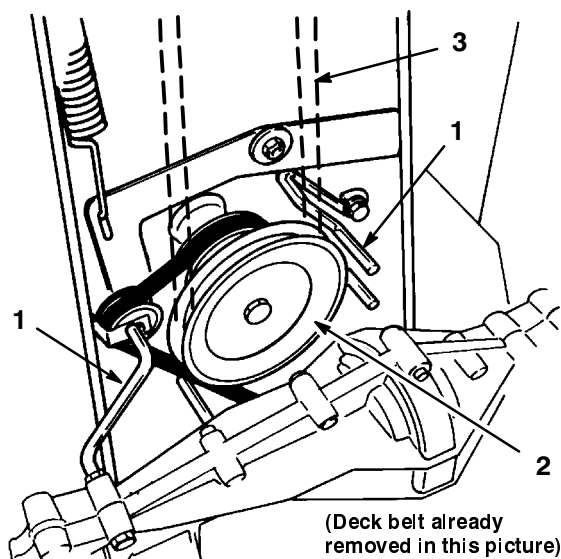

Figure 36
- Loosen the belt guides near the engine pulley and rotate them out of the way. Remove the deck belt from the engine pulley (Fig. 36).
- Loosen and remove the mounting screw securing each belt guide to the cutting unit. Pivot the belt guides away from the spindle pulley and remove the belt. Visually inspect the belt for wear or damage (Fig. 36).
3. Remove the deck belt from the engine pulley (Fig. 36).